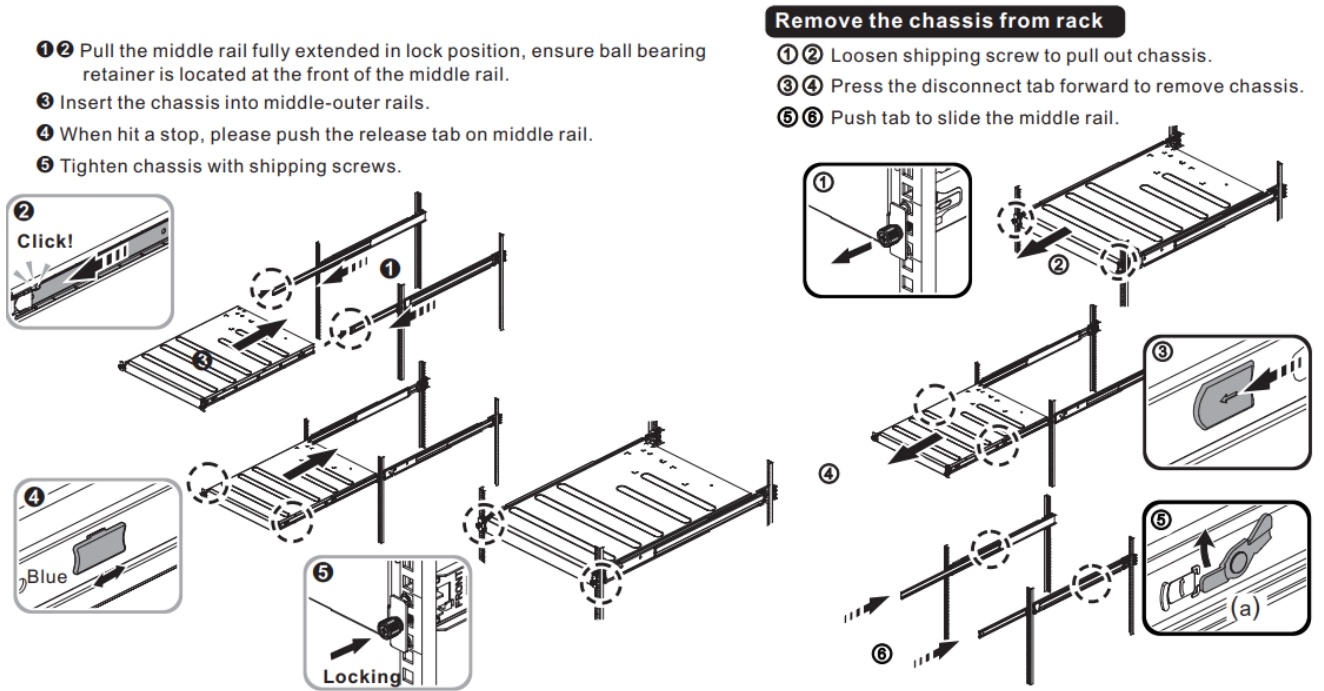

Figure 16.
- 2.2 After the attachment pins are secured to the inner rail, lock the inner rail to the chassis using two M4 screws (one on each chassis side). See Figure 16.